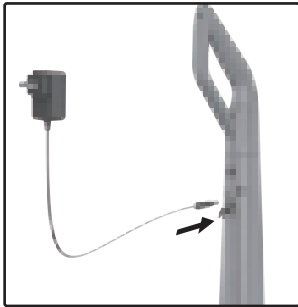

Figure 5-1
5.1 Place the machine on the storage base as described in 3.5, and insert the small end of the power adapter into the charging stand as shown (Figure 5-1)